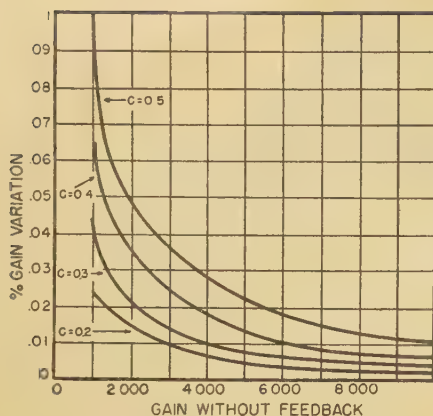

Fig. 1. Per-cent gain variation with feedback vs. gain without feedback.
This expression was derived from the gain equations for a feedback amplifier by obtaining the derivative of A_F with respect to A , c representing fractional changes in the latter; Eqt. (1) is strictly valid only for values of A_F close to unity. The curves of Fig. 1 show % variation in gain with feedback plotted against gain without feedback for several values of c .